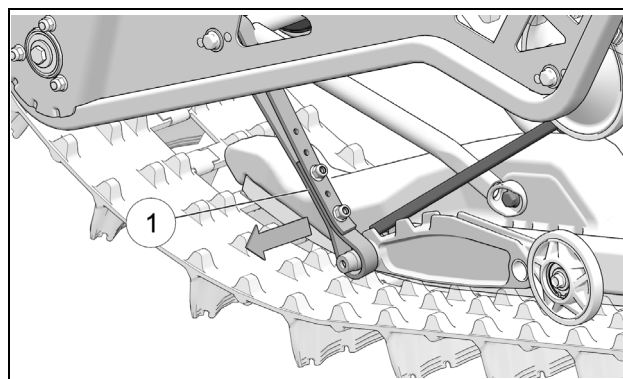

Figure 10
- Depress suspension to allow removal of limiter strap (1) from wheel shaft. See Figure 10.